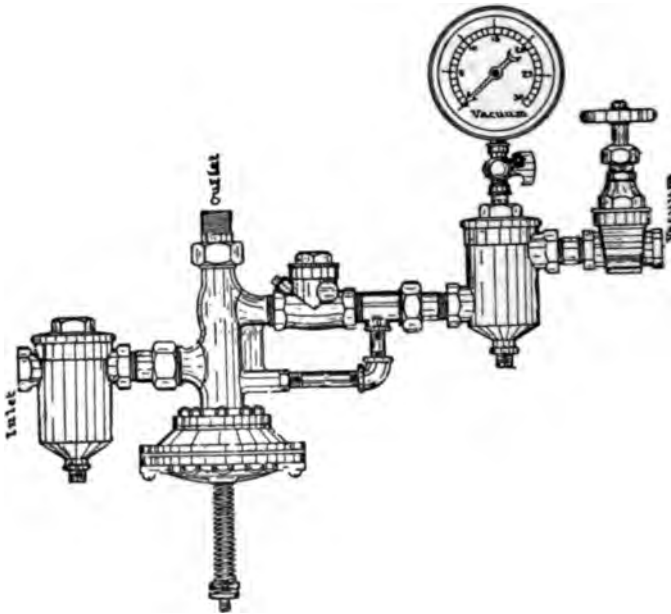
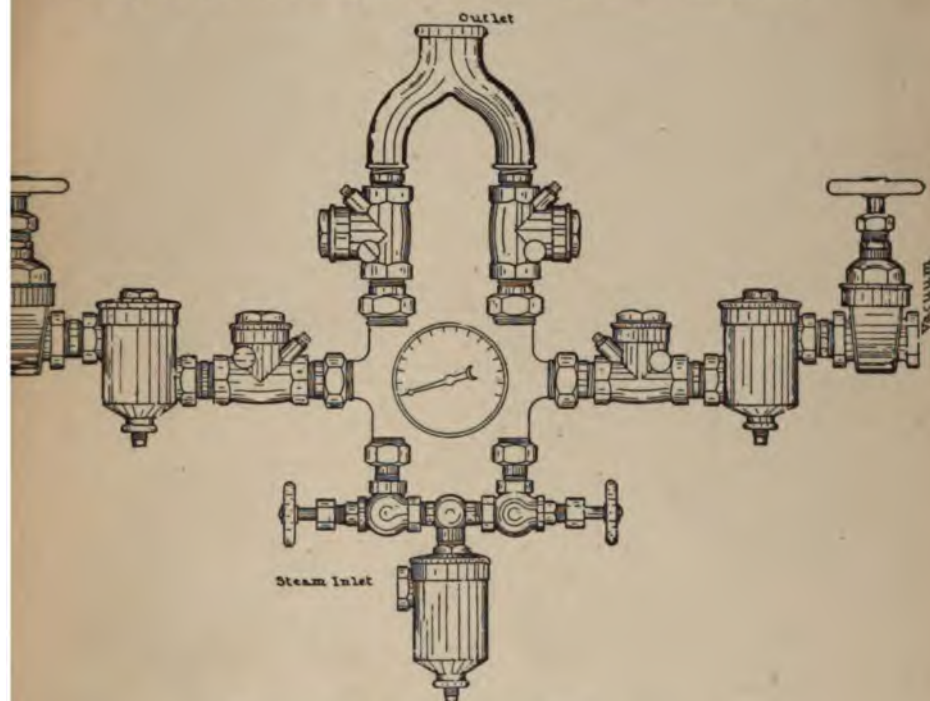

Fig. 97.—Paul Exhauster—Low Pressure.
Fig. 98.—Paul Exhauster—High Pressure.
A. In the form of a steam jet. Fig. 97 shows the construction of the exhauster as used for low pressure, and Fig. 98 the type used for high pressure or larger installations.